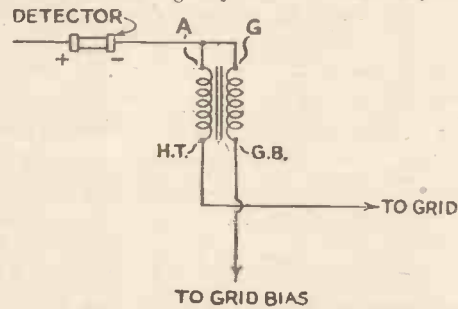

Fig. 1.—Auto-transformer connections for low-frequency transformer
This can be achieved by connecting up a low-frequency transformer as an auto-transformer (see Fig. 1). Here we have a transformer with its four terminals connected as follows: (1) terminal A (sometimes marked "Plate") is joined to terminal G (or "Grid"), and this strapped connection is taken to the output of the detector (namely, metal-rectifier negative). (2) Terminal H.T. is taken to the grid of the first low-frequency valve, and (3) terminal G.B. to the grid-bias battery. The negative bias will be from 1½ to 3 volts according to the valve employed for the low-frequency stage and the amount of high-tension applied to its plate.